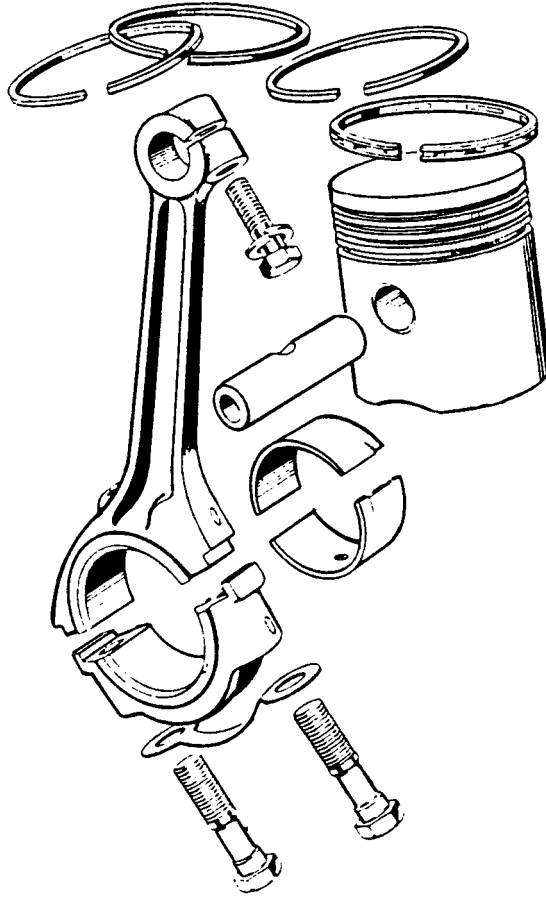

FIG. 1. PISTON AND CONNECTING ROD ASSEMBLY
- (b) An exploded view of a piston and connecting rod assembly for an internal combustion engine is shown in Figure 1.